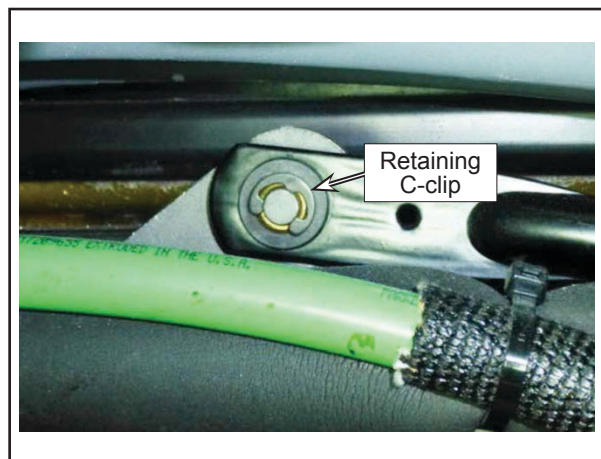

Figure 11 - C-clip in Front of the Pivot
- 1.13. From outside the bus, verify that the three C-clips (N8883532) are in place on the central pivot (Figures 11 and 12). If not, install a clip where one is missing. ❖